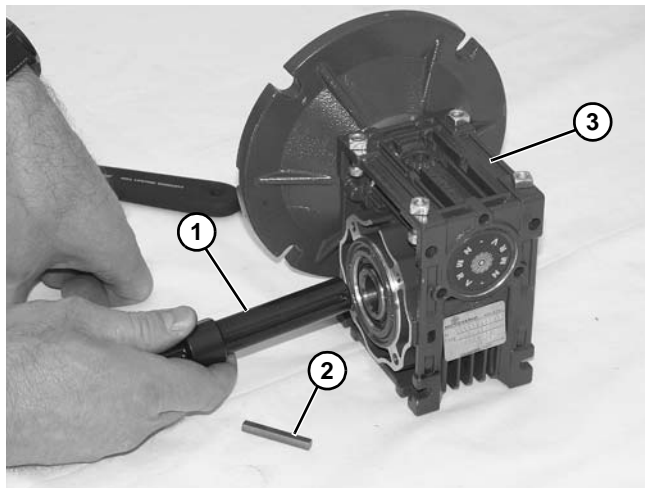

Figure 32
3. Remove driveshaft (Figure 32, item 1) and key (Figure 32, item 2).
4. Replace gear reducer (Figure 32, item 3).
6. Replace the original shaft components into new gear reducer (see Figure 32).